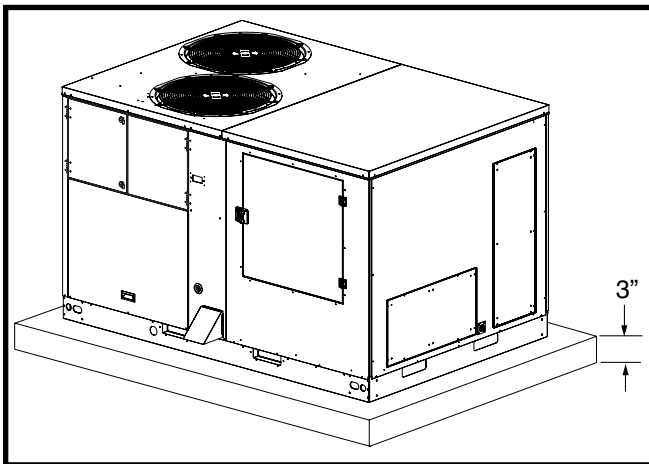

Figure 7. Mounting Pad
- A mounting pad Figure 7 \(page 9\) must be provided and separate from the building foundation. The pad must be level to ensure proper condensate disposal and strong enough to support the unit's weight. The slab height must be a minimum of 3" (8 cm) above grade and with adequate drainage.